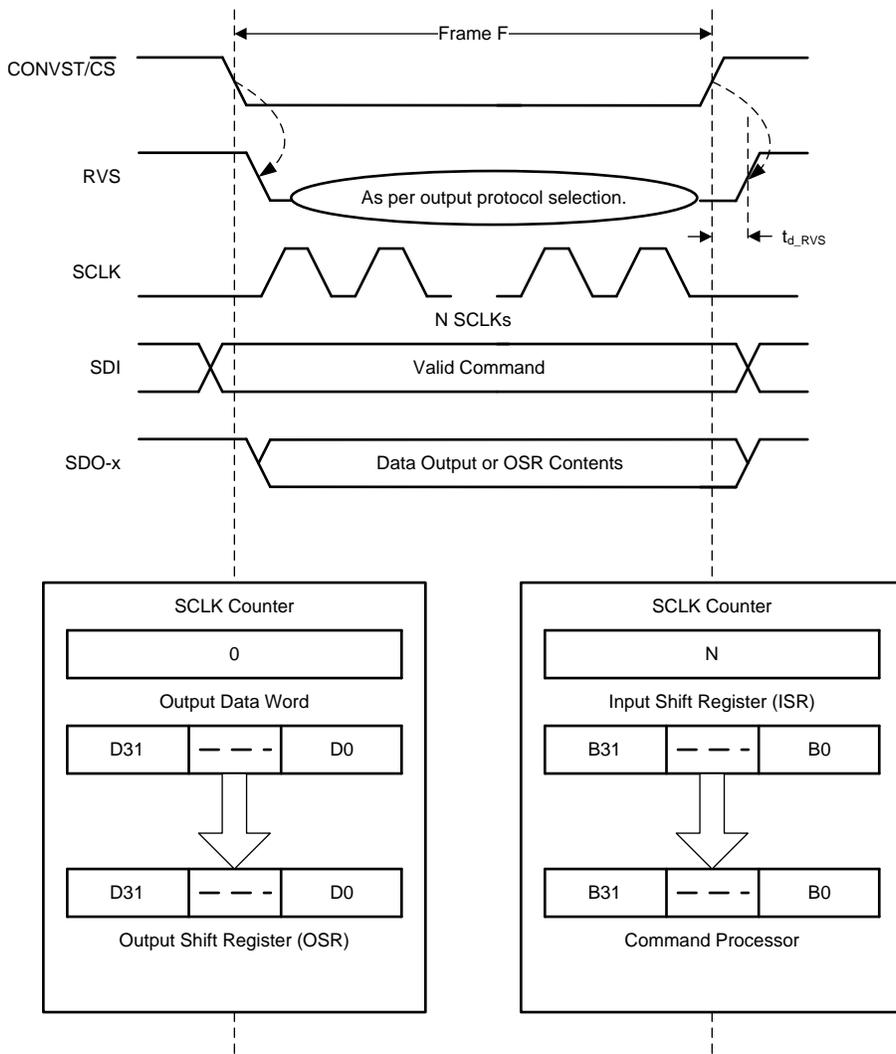

Figure 95. Data Transfer Frame
A data transfer frame between the device and the host controller begins at the falling edge of the CONVST/ $\overline{\text{CS}}$ pin and ends when the device starts conversion at the subsequent rising edge. The host controller can initiate a data transfer frame by bringing the CONVST/ $\overline{\text{CS}}$ signal low (as shown in Figure 95) after the end of the CONV phase, as described in the *CONV State* section.
- The device takes control of the data bus. As shown in Figure 95, the contents of the output data word are loaded into the 32-bit unified shift register.
- As illustrated in Figure 95, the contents of the unified shift register (data input through SDI) are transferred to the command processor for decoding and further action.